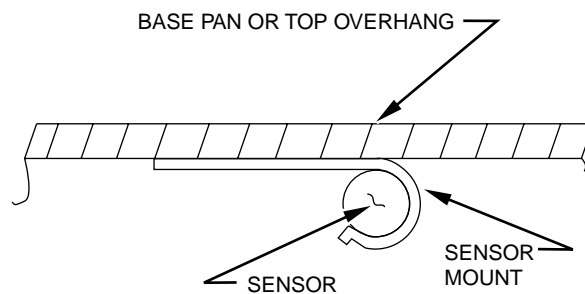

Fig. 6 — Sensor Mounting
The sensor should be mounted under the northeast corner of the outdoor unit. Use the supplied sensor mounting clip. (See Fig. 6.) This has an adhesive pad to mount the sensor under the unit in a desirable location. Make sure the mounting surface is clean and dry. When applying, remove protective paper to expose pad surface and hold in place for 5 to 10 seconds ensuring good contact. However before doing all this, first check and make sure at least 1 unused wire is available in the control cable between the indoor and outdoor units. If one is available, no additional wire will be needed between indoor and outdoor units.
1. Determine sensor location under overhang and wiring route to connection point. Snap sensor into mounting clip. (See Fig. 6.) Wipe from under the top any loose dirt that may be on the mounting surface. Peel backing from mounting clip and press to underside of top overhang, holding firmly for a few seconds.